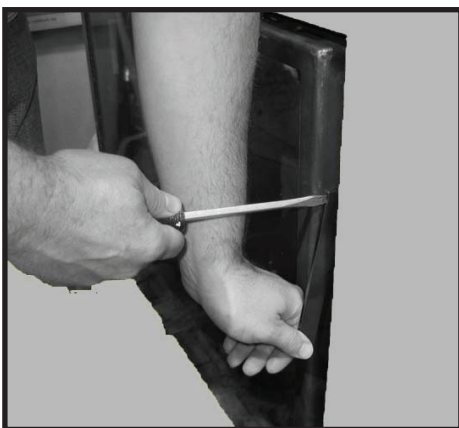
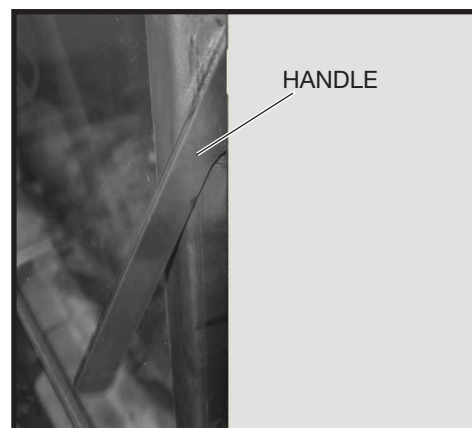

Figure 8: Accessing handle.
Figure 9: Handle.
2. Using a screwdriver or other similar object, push against the notch in the top of the latch and grab the bottom of the latch handle as it protrudes. Lift handle until latch hook disengages (Figure 8) & (Figure 9). Repeat for other side while holding glass so it does not tip out.